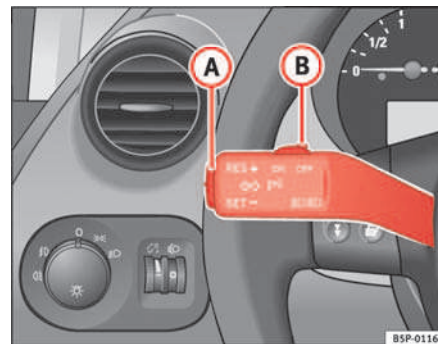

Fig. 140 Turn signal and main beam lever: switch and rocker switch for CCS
- Press the lower part of the rocker switch once briefly when you have reached the speed you wish to set **SET** ⇒ fig. 140 **A**.